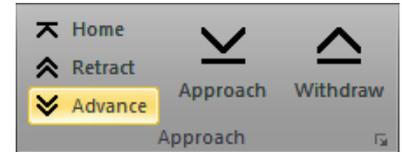

Fig. 5-5 Approaching the sample to the tip. Tip and its mirror image are about to touch.
4. Place the magnifier in a way that you can see the tip of the wire and the surface of your sample (if you are already close enough you should see the mirror image of the tip in the sample surface, see Fig. 5-5).